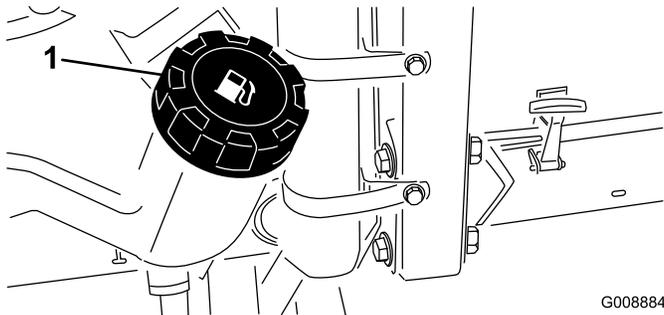

Figure 24
1. Clean the area around the fuel-tank cap (Figure 24).